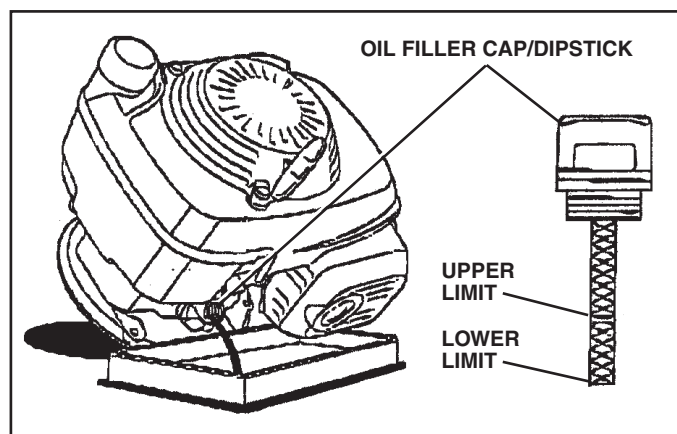

FIG. 17
## TO CHANGE ENGINE OIL (See Fig. 17)
11. Reattach drive cover with screws previously removed (See Fig. 17).